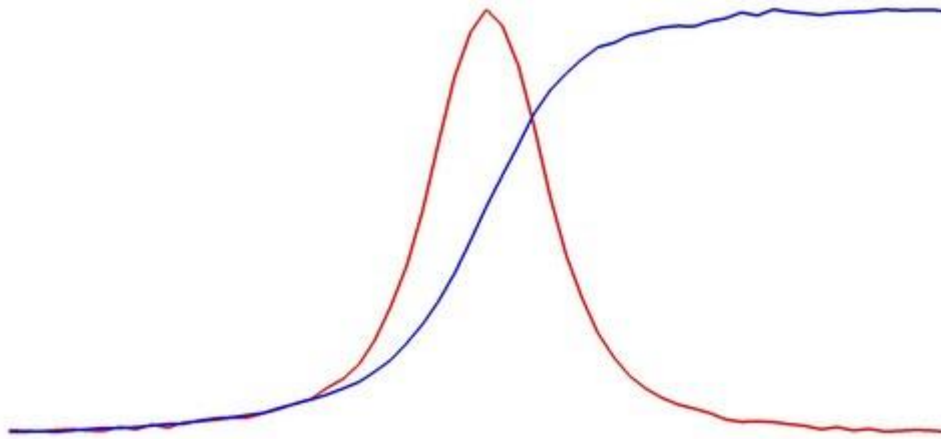

Figure 1: Depth profile of silicon (red) and adhesive strip (blue)
- silicon (i.e. Cantilever (Figure 1))
2. Choose the appropriate **Stabilization Mode** (Peak for samples giving just a signal at the surface or Positive Edge for sample giving a signal also under the surface (Figure 1))